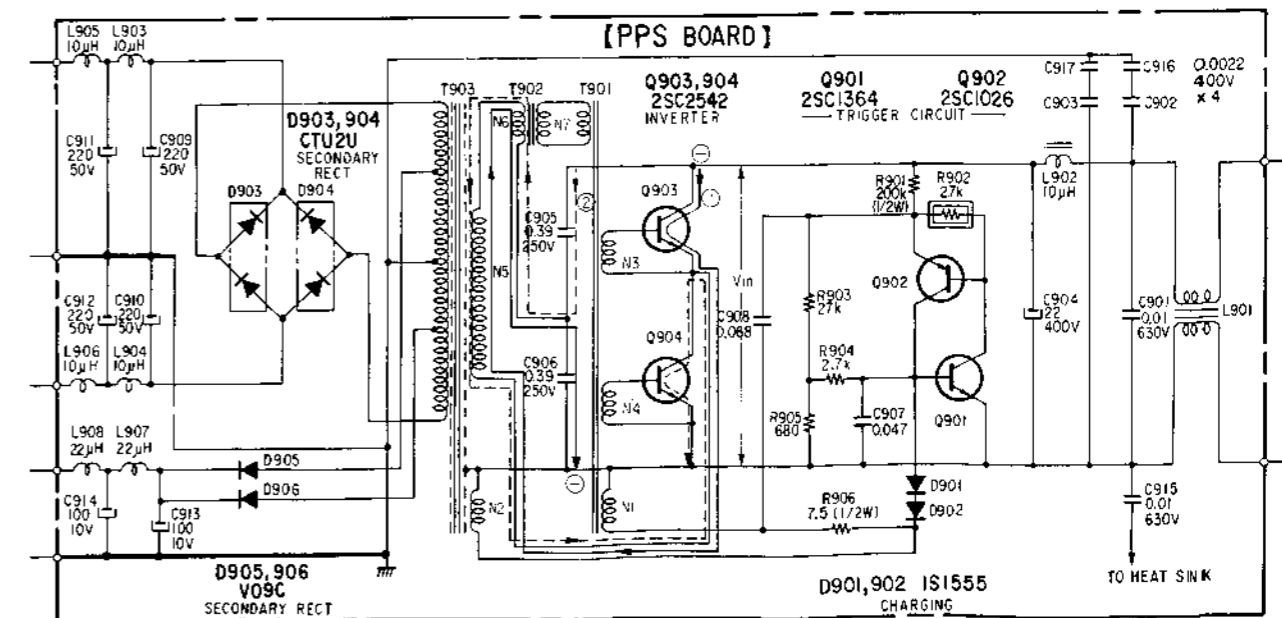

Fig. 5
The details are as follows (See Fig. 5).
11. As a result, the current ② flows from the point ⊕ to point ⊖ through C905, transformer windings N6 and N5, and Q904.
14. Thus a square-wave signal is obtained at the secondary winding of T903 as shown in Fig. 5 from the alternating turning on and off operation of Q903 and Q904.
1-2-5. SECONDARY RECTIFIER CIRCUIT (See Fig. 5)